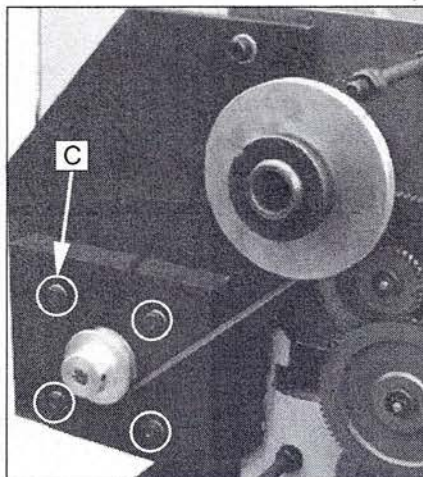

Fig. 20
2. To selection A or B according to your requirement? A is low speed, B is high speed. (Fig. 20)
Loosen the four nuts and screws (C, Fig. 20) to remove the plate of mounting motor and position!